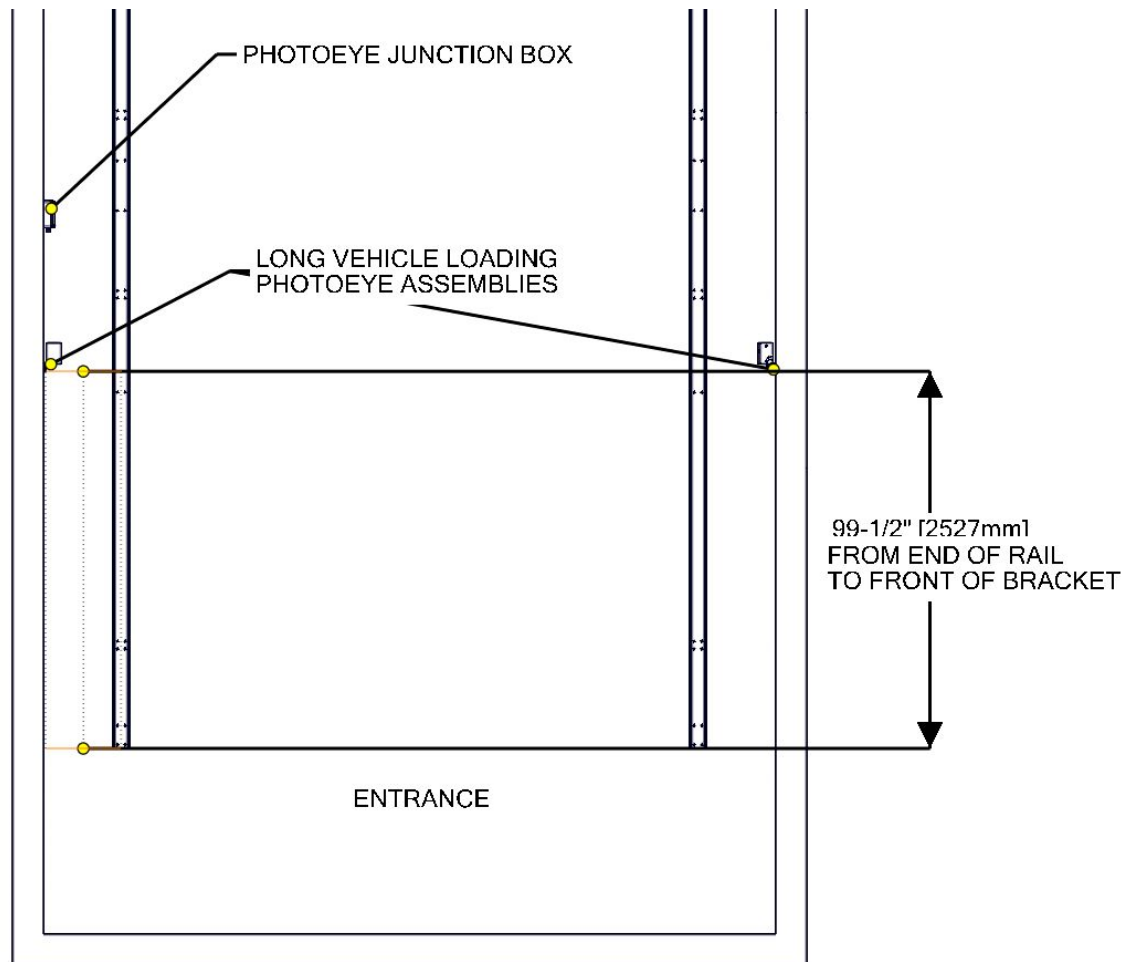
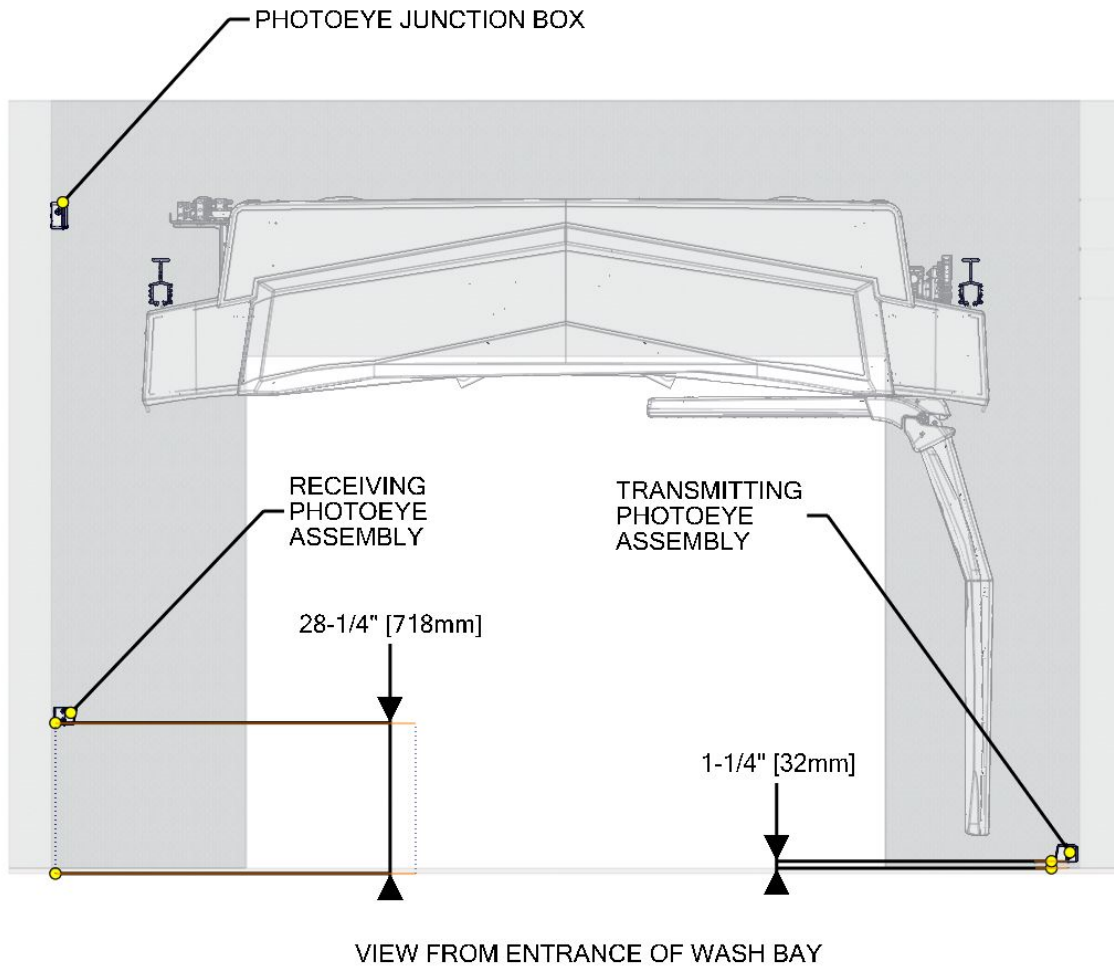
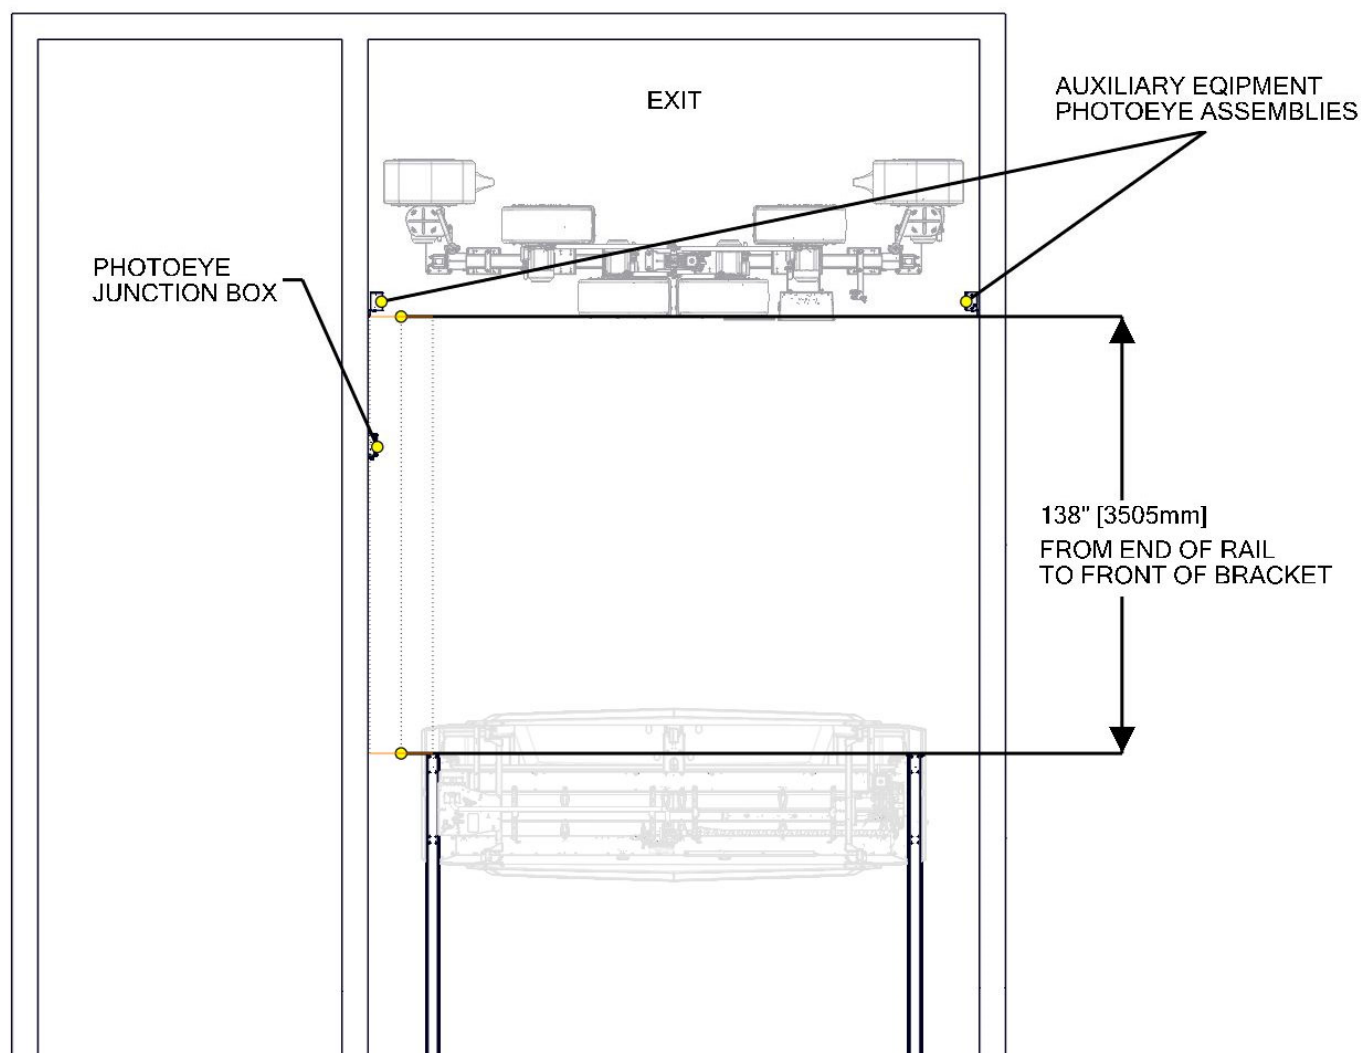
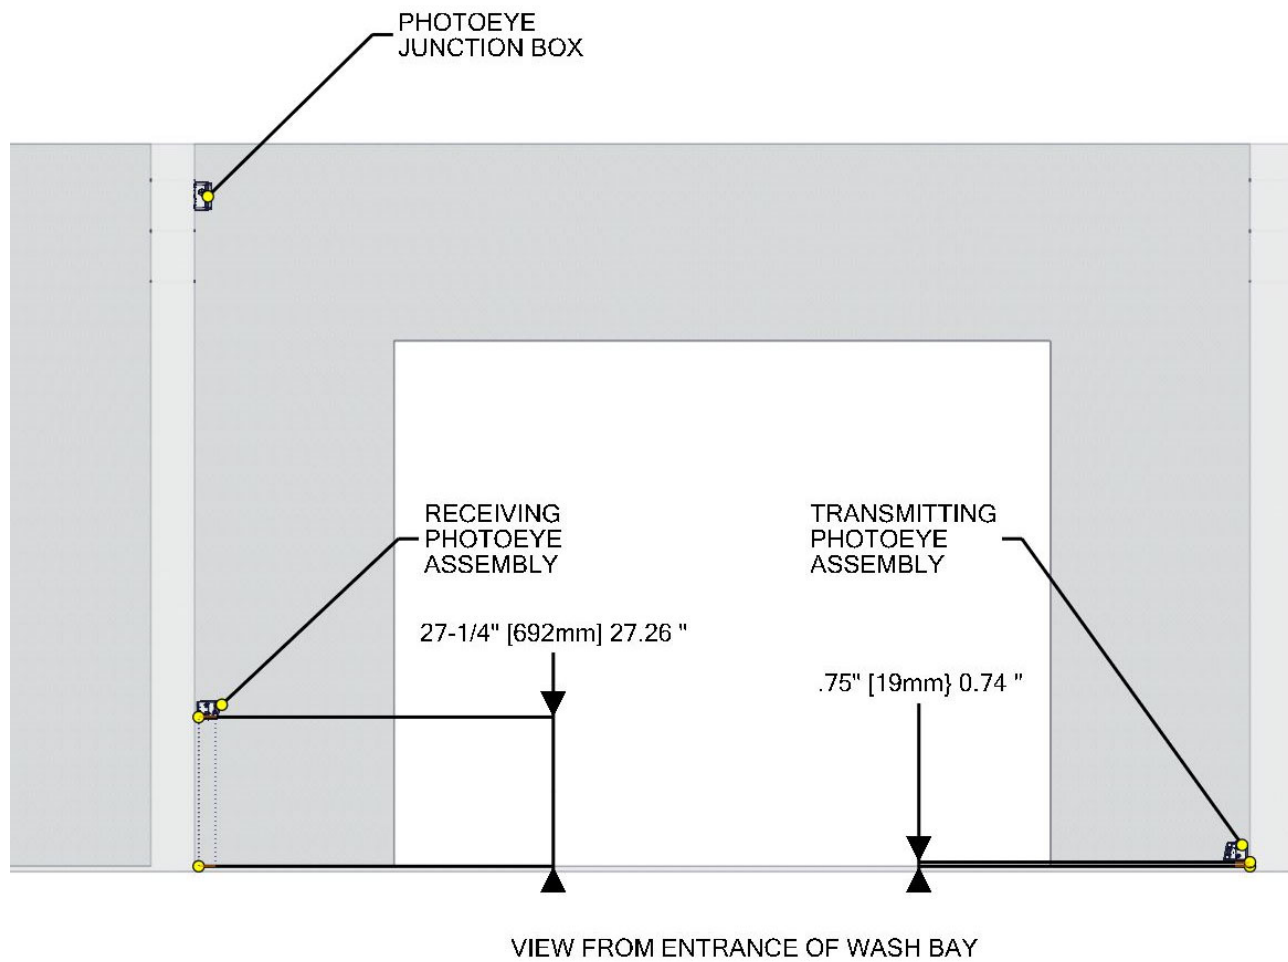

Figure 159 – Long Vehicle Loading Wall Mounted Photo-eyes - Plan View
Figure 160 - Long Vehicle Loading Wall Mounted Photo-eyes - Front View
Figure 161 – Auxiliary Service Vehicle Detection Photo-eyes - Plain View
Figure 162 - Auxiliary Service Vehicle Detection Photo-eyes, Wall Mount - Front View
- Wall mounted or stand mounted Photo-eyes are install in the wash per the dimensions shown in Figure 159, Figure 160, Figure 161 and Figure 162.